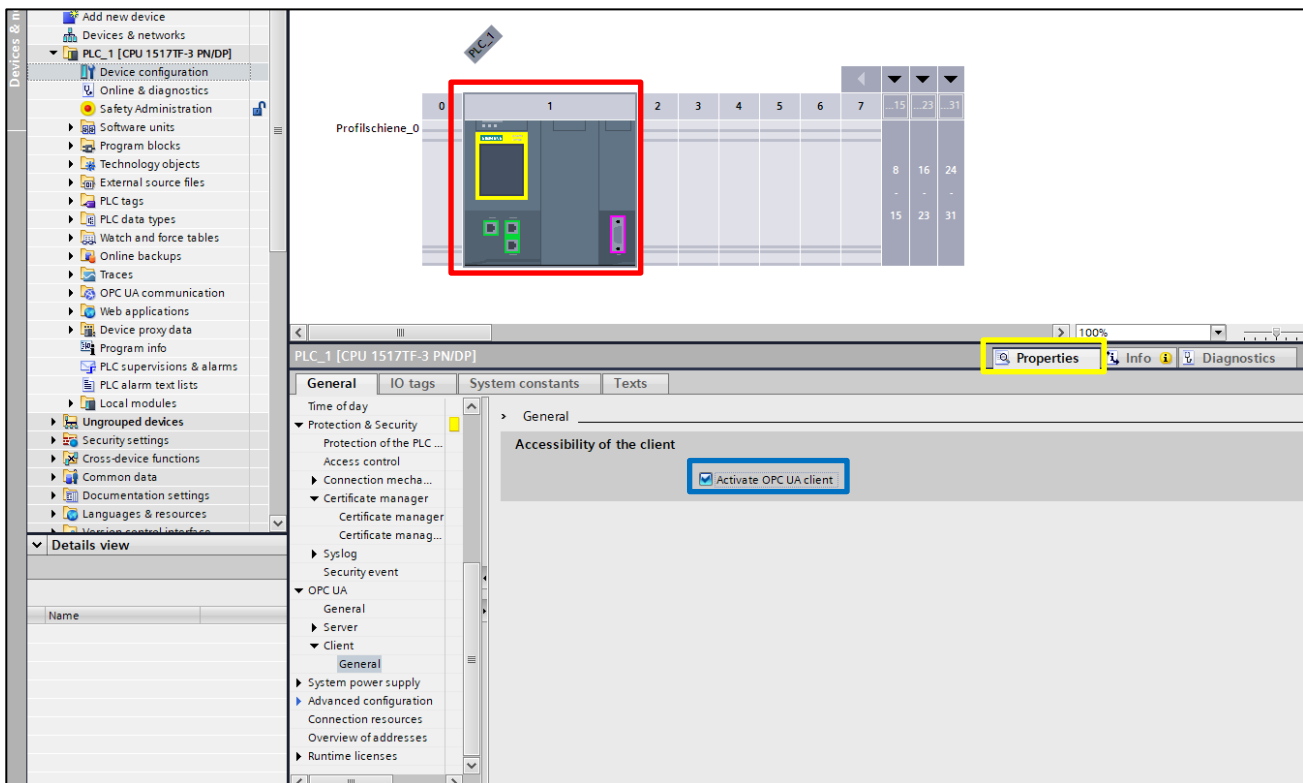

Figure 5: Activating the OPC UA Client
3. In the device configuration, click on your configured controller (Figure 5 red square).
4. Then click on the "Properties" tab (Figure 5 yellow square).
6. Activate the OPC UA Client by selecting "Activate OPC UA Client" (Figure 5 blue square).